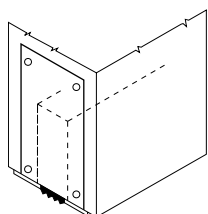

Figure 1
3. Install the flat end plate on the lock edge of the door with the fasteners provided, and in the location shown (Figure 1).